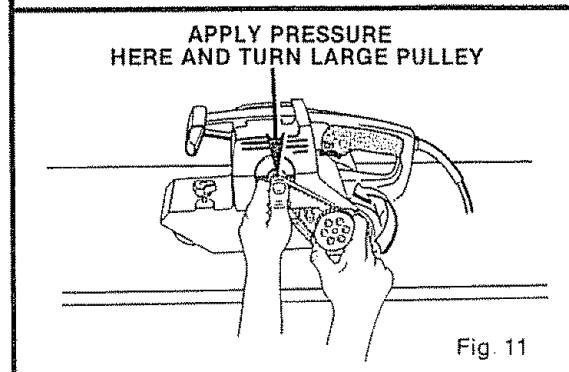

Fig. 11
- 5 Holding the belt as shown in Figure 11, press the belt onto the small pulley. **NOTE: TO SIMPLIFY THE PROCESS, TURN THE LARGE PULLEY AS YOU PRESS THE BELT ONTO THE SMALL PULLEY.**